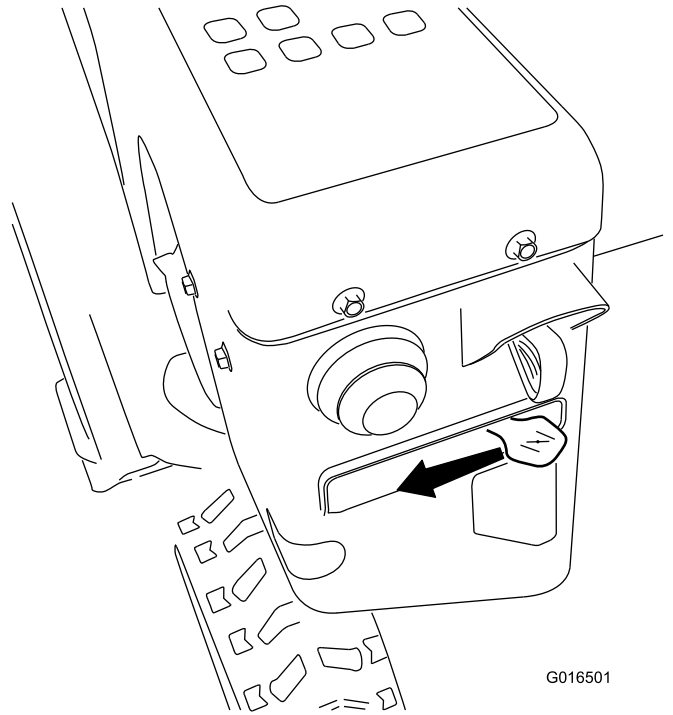

Figure 21
5. Move the choke to the CHOKE position (Figure 21).